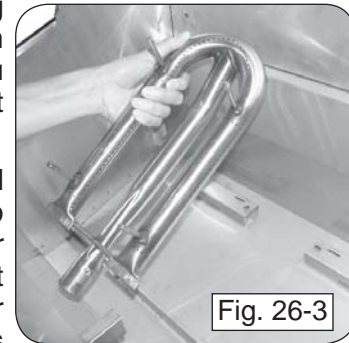

Fig. 26-3
2. Slightly pinch and remove the burner clip found on the rear center of the burner. Next lift the rear of the burner out of the anchor pegs, move the burner toward the back of the grill to clear the gas inlet, and set it aside (Fig. 26-3).